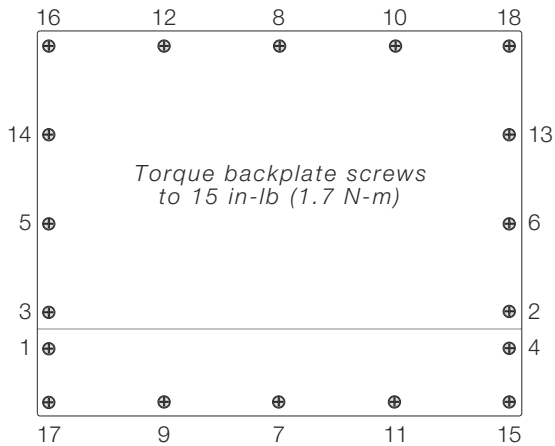

Figure 2-3. 920i Enclosure Backplate
7. For indicator models that include a backplate, position the backplate over the enclosure and reinstall the backplate screws. For the 820i and 920i desktop and universal models, use the torque pattern shown in Figure 2-3 to prevent distorting the backplate gasket. Torque screws to 15 in-lb (1.7 N-m)